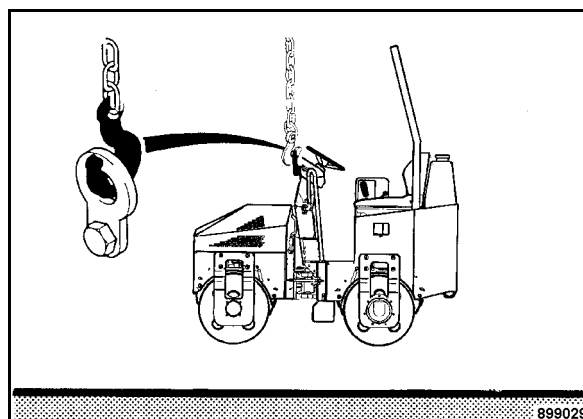

Fig. 56
- Always lift the machine by the central lifting facility (Fig. 56).